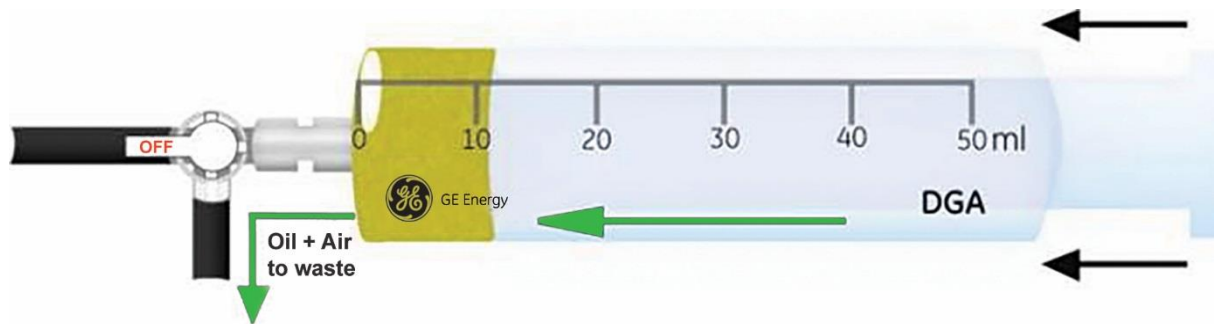

Figure 6-3: Expel oil and air from the syringe
5. Turn the Luer lock valve fitted to the equipment sampling line to allow oil to flow out from the syringe to a waste container as shown in Figure 6-3.